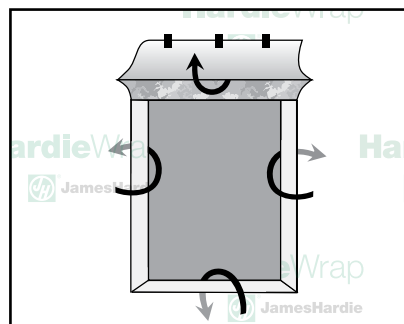

figure 5
Step 3: Fold the remaining three flaps in through the opening, fastening them inside with staples (fig. 5).